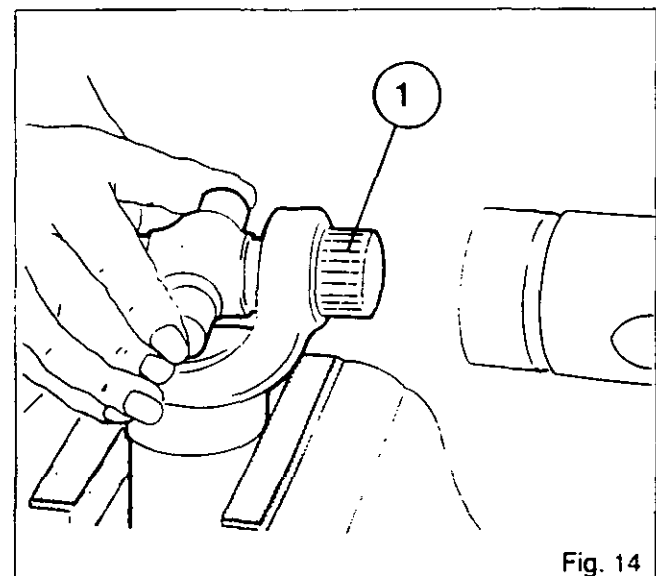

Fig. 14
91. Drive the sleeve (1) sufficiently into the yoke, holding the cross-pin (Fig. 14) in order to fit the circlip.